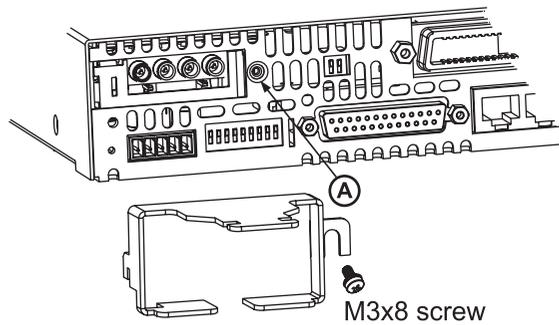

Fig.3-8: Shield assembly
4. Loosen the chassis screw marked "A" halfway as shown in Fig.3-8.
5. Assemble the protective shield to the chassis and tighten the two screws to fix the shield to the chassis(see Fig.3-8). Screws tightening torque: 4.8-5.3 Lb-inch.